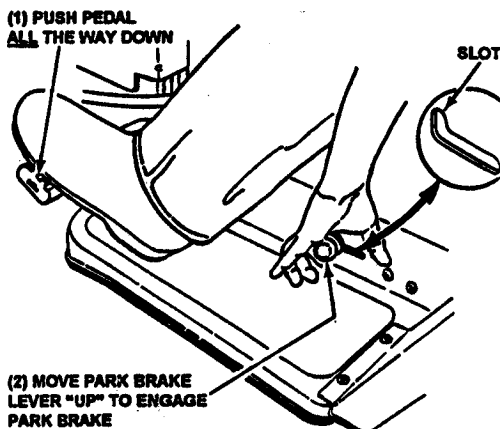

FIGURE 10
Fully depress Clutch/Brake Pedal to stop wheel drive. See Figure 10.
2. Pull the Park Brake Lever as shown in Figure 10 up into the slot to set Park Brake. See inset in Figure 10.